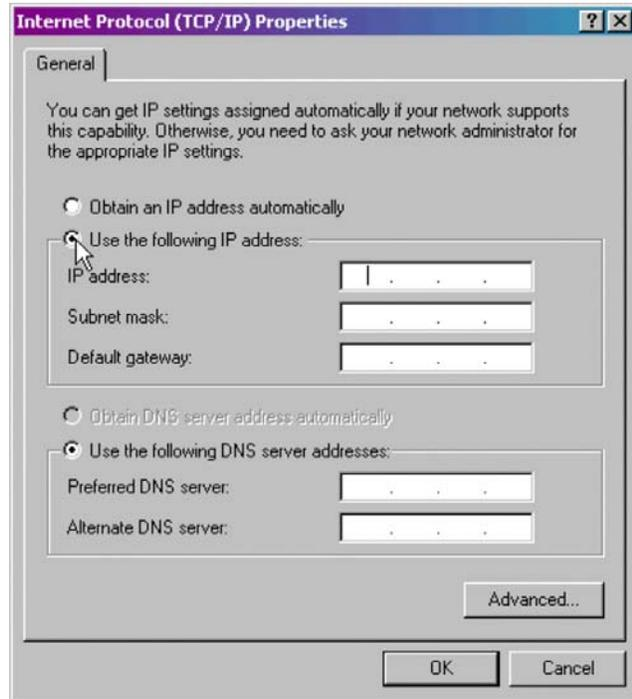

FIGURE A2
3. In the Internet Protocol (TCP/IP) Properties Box (shown in Figure A2) you probably have “Obtain an IP address automatically” checked. Change this by clicking the radio button for “Use the following IP address:” You will now be able to enter numbers in the boxes for IP address, Gateway and Subnet Mask. For the IP address, in the example above, use 192.168.1.1. For the Gateway and Subnet values, use the numbers you entered into the WVC16. You do not need to enter any numbers in the DNS server section. Click OK when completed.